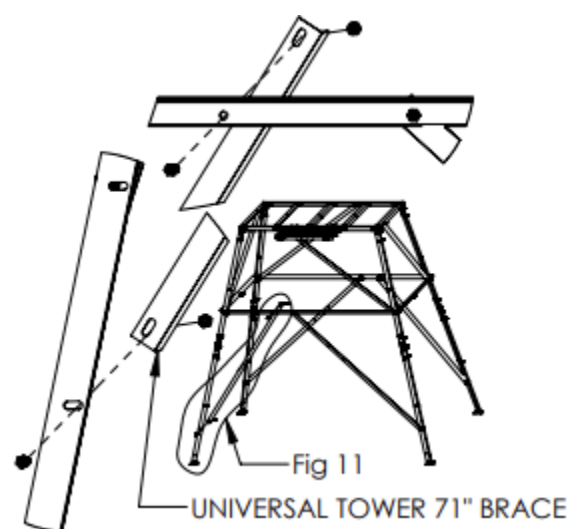

Fig 11
17. Attach the 71" brace to the horizontal cross bar and the lower leg on the long side using 2 - 3/8" x 1" bolts & 2 - 3/8" nylon lock nuts. Repeat on the opposite side. Do not tighten these at this time. (Fig 11)